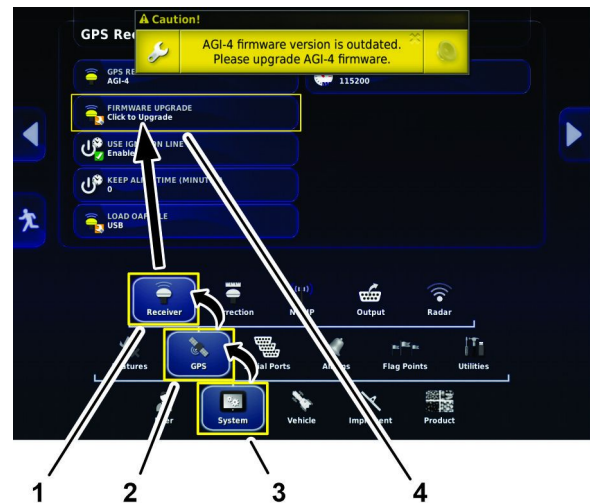

Figure 23
- On the setup screen, press the SYSTEM icon and the GPS icon, and the RECEIVER icon (Figure 23).
- In the GPS receiver dialog box, press the FIRMWARE UPGRADE icon (Figure 23).